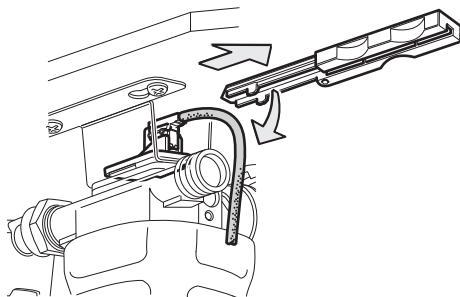

Fig. 10
- When the cable is free, remove the installation aid. The transmitter remains in the support. (Fig. 10).